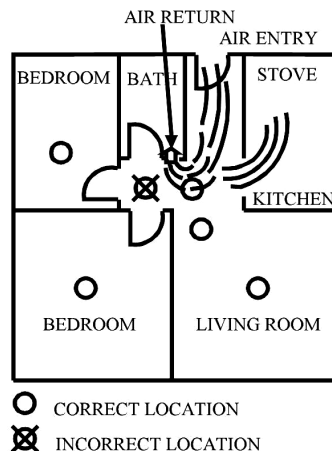

Fig. 6: Recommended smoke detector locations to avoid air streams with combustion particles
- When air streams pass by kitchens, the way a detector can sense combustion particles in normal air-flow pathways is graphically shown in **Fig. 6**, which indicates the correct and incorrect smoke detector locations for these conditions.